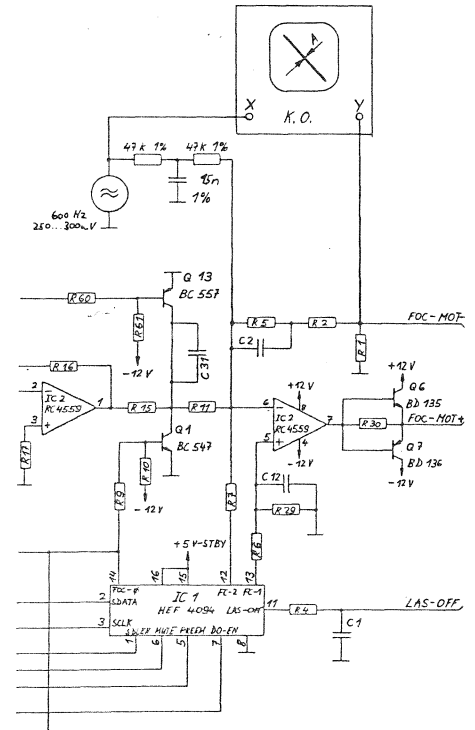

Fig. 4.12
- Connect AF generator to the X input of an oscilloscope and via an R-C-R element (according to Fig. 4.12) to pin 6 of IC2 (on 1.769.310), ($f=600\text{ Hz} \pm 5\text{ Hz}$, $U=250\text{ to }300\text{ mV RMS}$).